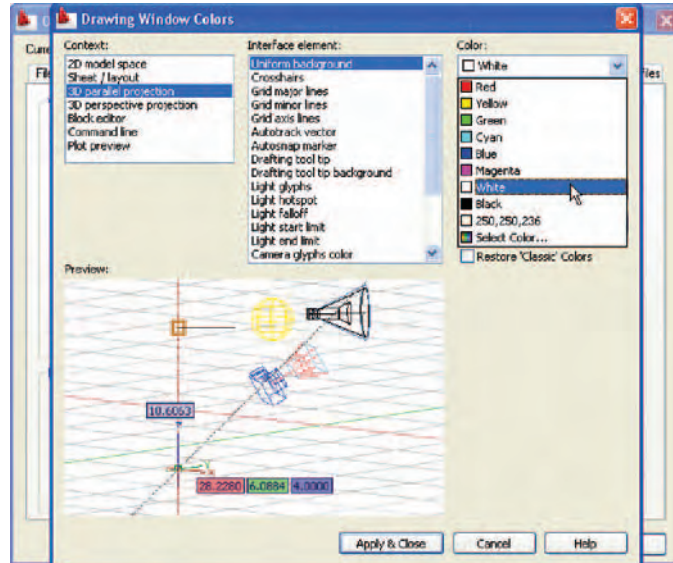

Fig. 15.3 In the **Options** dialog set all **background** colours to **White**
5. Click the **Colors** tab. The **Drawing Window Colors** dialog appears. Set **Uniform Background** colour to **White** (Fig. 15.3).